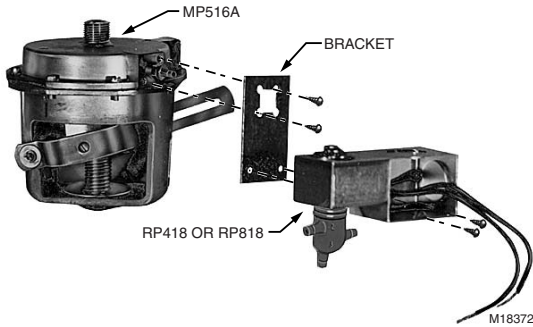

Fig. 2. RP418 or RP818 relays mounted directly to an MP516A operator using the 14003638-001 adaptor kit.
NOTE: When wall mounting, use the mounting holes on the sides of the relay valve body or the knockout mounting holes on the inside of the splice box. See Fig. 2.
1. Use the mounting holes beneath the cover of the splice box and attach the relay using mounting screws obtained locally. See Fig. 2 through 5.